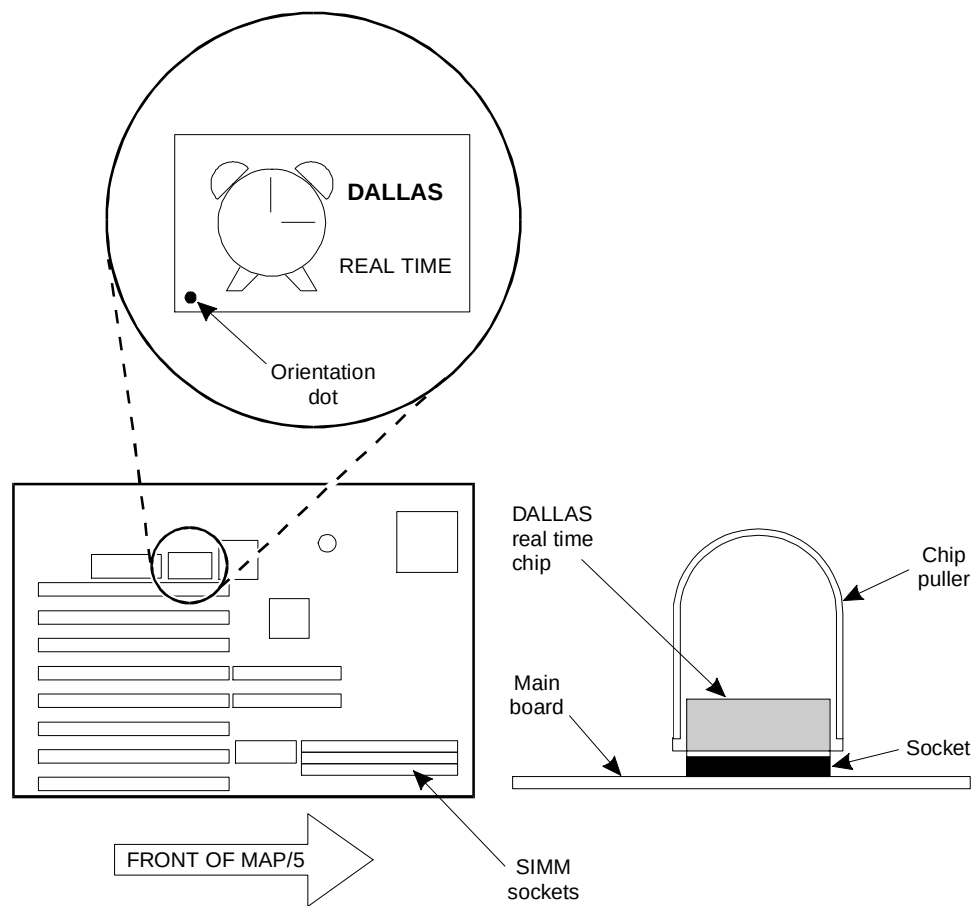

Figure C-12. How to Remove the Battery on the System Board
The battery is included in the real-time clock module. To replace the battery, refer to Figure C-12 below and follow these steps:
1. Locate the DALLAS Real Time chip on the system board. See Figure C-12 below.
See Figure C-12 below.
3. Align the new chip with the dot positioned as shown in Figure C-12 above and press the chip into the socket.